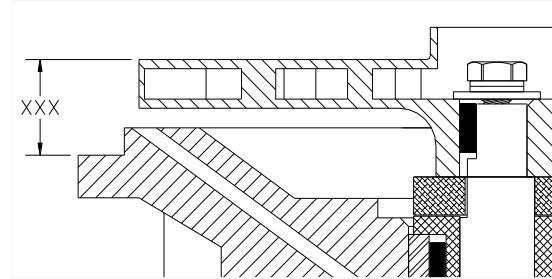

Figure 1
11. Slide the magnet/impeller assembly so the top of the Impeller (**S**) is 0.81" away from the outer flange on the Separator Plate (**H**) as shown in **Figure 1** below. This can be done with the use of quality calipers.